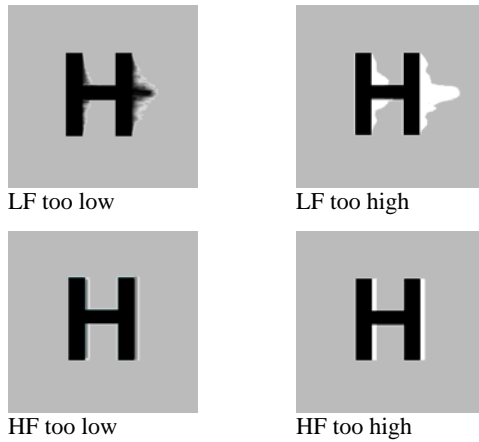

Figure 7 **Problems with smearing and sharpness requiring LF and HF adjustment**
8. Optionally, fine-tune the LF equalization to remove ‘black video smearing’ - black smears to the right of large objects such as window title bars (see Figure 7).
9. Optionally, fine-tune the HF equalization to sharpen the video image. Increase HF Equalization until a white edge to the right of small characters just starts to appear (see Figure 7).